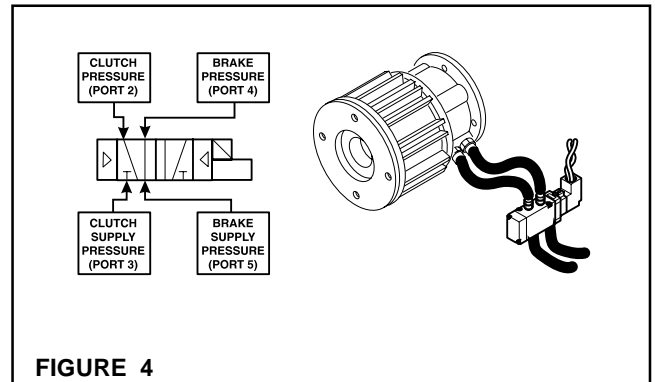

FIGURE 4
1. If the brake is to be set and the clutch is to be **OFF** when the solenoid is de-energized, connect the port marked **4** to the brake and the port marked **2** to the clutch (See Figure 4).
2. Connect the air supply line to the port marked **3** and other air pressure supply line to the port marked **5** (See Figure 4).